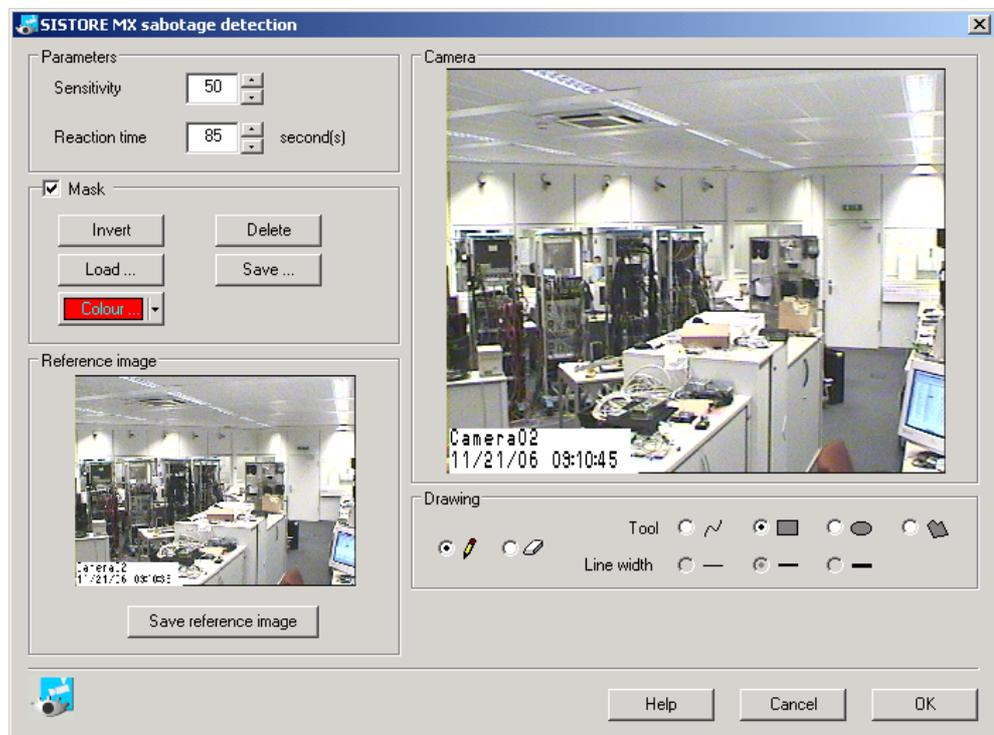

Fig. 42 The *SISTORE MX NVS sabotage detection* dialog opened with the *Options...* button on the *Cameras* or *LAN cameras* tab
- The SISTORE MX NVS **Sabotage detection** window will open (see "Fig. 42 ", page 51).